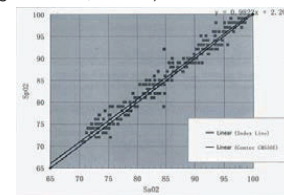
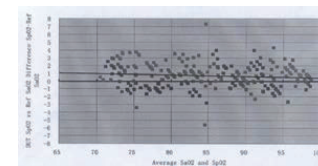

Figure 2. SpO₂ regression plot
Figure 3. Bland-Altman plot
5. Measurement Accuracy: ±2% in stage of 70% ~ 100% SpO₂, and meaningless when stage being smaller than 70%. ±2 bpm or ±2% (select larger) for Pulse Rate. Clinical Trial: SpO₂ regression plot and Bland-Altman plot, Refer to Figure 2 & Figure 3.